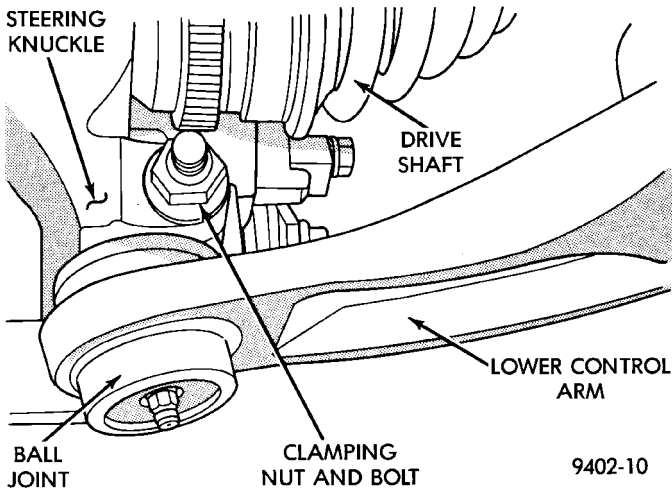

Fig. 10 Removing Steering Knuckle Clamp Bolt
(11) Remove nut and bolt (Fig. 10) retaining ball joint stud into steering knuckle.